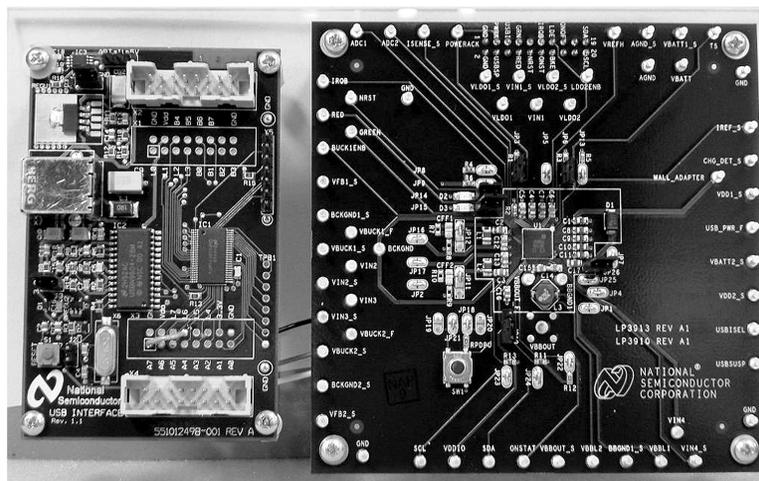

Figure 1. LP3910 Evaluation Kit: USB I²C Interface (Left); LP3910 Eval Board (Right)
- Connect the LP3910 Evaluation Board to the USB interface board as shown in Figure 1.